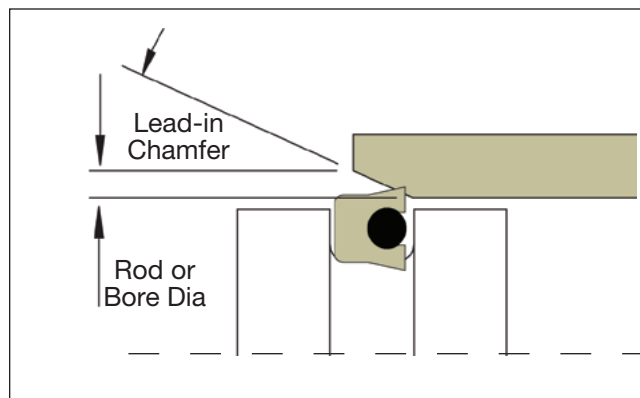

Figure 2-17. Seal installation lead-in chamfer
- 4. Lead-in Chamfer.** A generous lead-in chamfer will act as a guide to aid in seal installation. With the proper lead-in chamfer, the seals can be installed without lip damage. Refer to Figure 2-17 below and Table 2-6 on page 2-8 for proper lead-in chamfer dimensions.